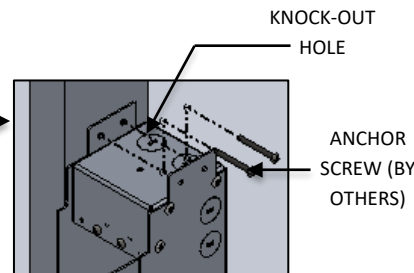

FIG. 9- DETAIL SHOWNG KNOCK-OUT HOLE AND SCREWS
5. Remove the appropriate knock out for desired wire entrance location as shown in FIG. 9.